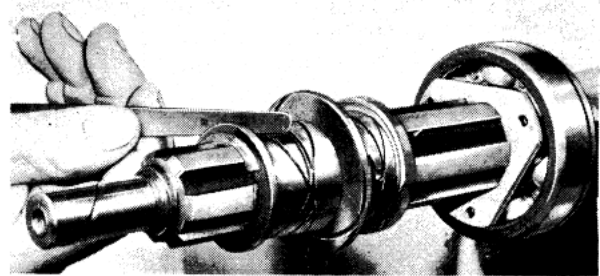

Fig. 32 Checking overall float of mainshaft bushes with feeler gauge.
- bushes, when in their fitted positions. Having ensured that the synchro unit is perfectly free on the splines, check the overall float of the constant mesh assemblies, remove the second and first constant gears, but leaving their respective bushes in position with the hardened steel washer and half circlip. The end float can then be checked with a set of feeler gauges, as shown in Fig. 32. The correct float should lie between .007" and .012".
The end float can then be checked with a set of feeler gauges as shown in Fig. 32. The correct float should be between .007" and .012".